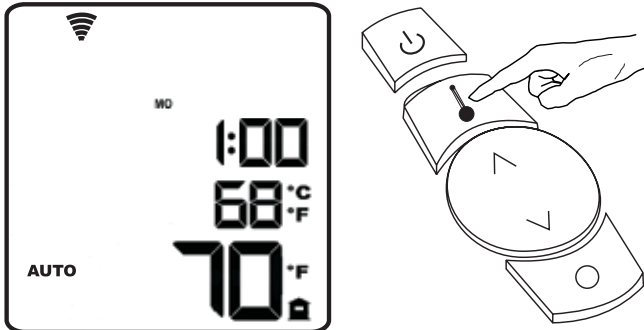

Figure 12
1. Turn the remote on by pressing the remote's power button, if the remote activates in Manual (MAN) or Thermostatic (AUTO) Mode, the unit will automatically start. If the remote is not in Thermostatic Mode, press the mode button to switch the remote's mode to Thermostatic. The remote display will show "AUTO". See Figure 12.